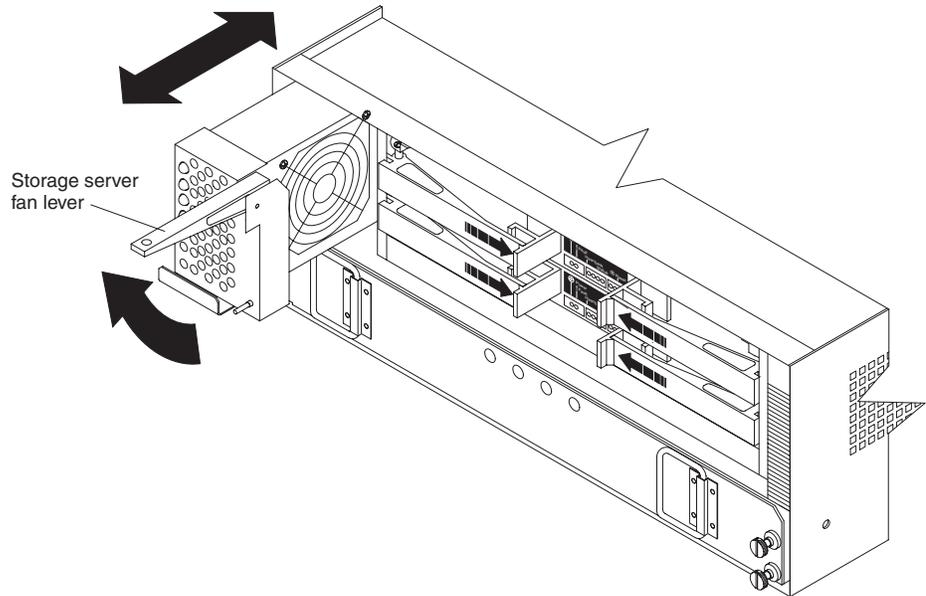
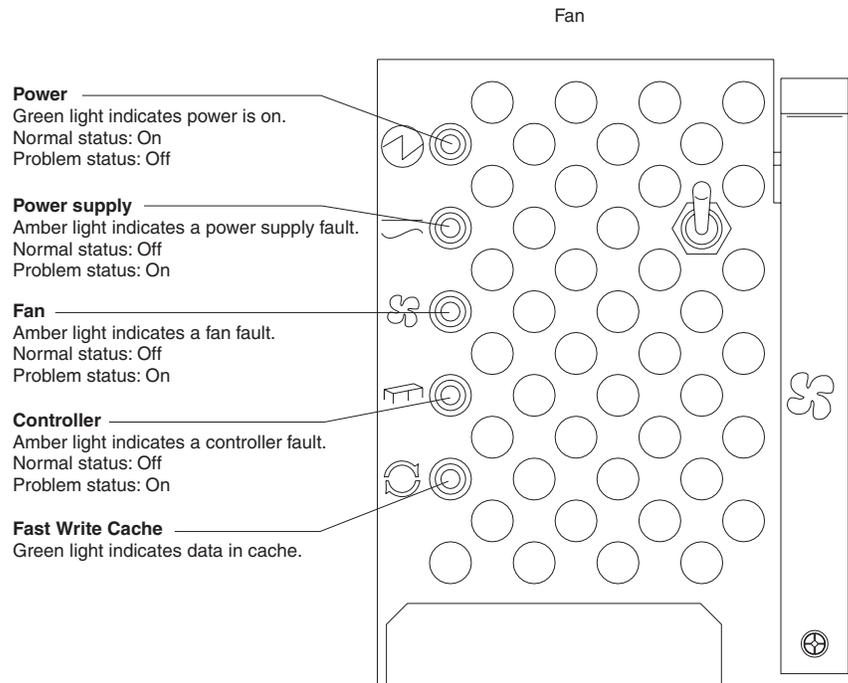

Figure 40. Removing and installing the storage server fan
Figure 41. Storage server indicator lights
The storage server fan is a single, removable unit containing two cooling fans and temperature monitoring circuitry. The storage server fan plugs directly into a slot on the front of the DS4400 Storage Server, to the left of the controllers (see Figure 40 on page 51). Five indicator lights provide overall system status information (see Figure 41 on page 52). The dual fans in the storage server fan unit provide a redundant cooling system to both controller CRUs. If one fan fails, the other continues to operate, providing sufficient air circulation to prevent the controllers from overheating until you can replace the entire storage server fan.
2. Remove the failed storage server fan, as shown in Figure 40.
5. Using Figure 41 on page 52 as a guide, check the storage server indicator lights on the fan.